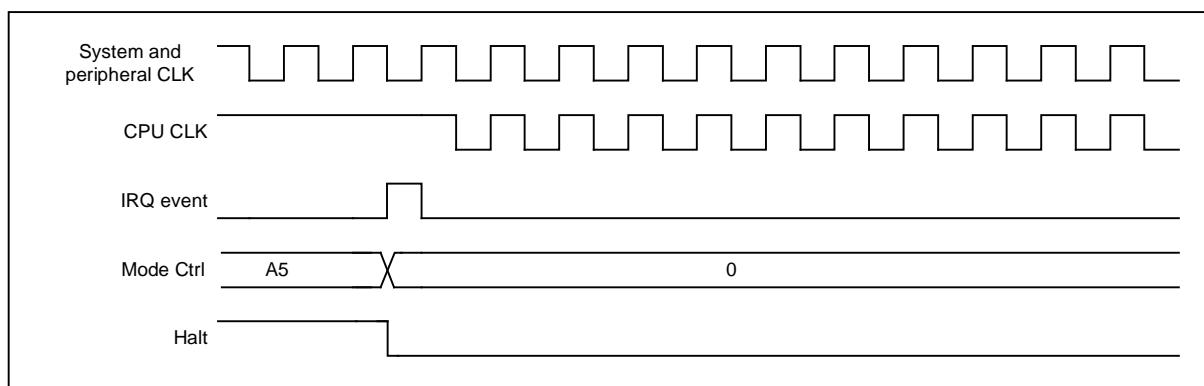
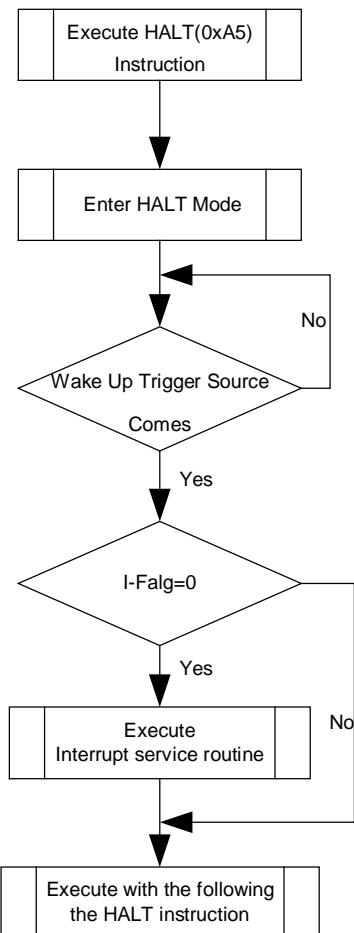

Figure 21-7 Leave HALT mode from interrupt
Figure 21-8 Release Flow From HALT Mode
Refer to the timing diagram of leaving HALT mode in Figure 21-7. After releasing HALT mode, instruction execution is divided into two ways according to I-flag in status (P). If I-flag=0, the normal interrupt would be occurred. If I-flag=1, the chip will resume execution starting with the following the HALT instruction. In other words, MCU will not execute interrupt service routine. Detailed release flow is shown in Figure 21-8. When exiting from HALT mode by interruption, it must take a little time for oscillation stabilization.